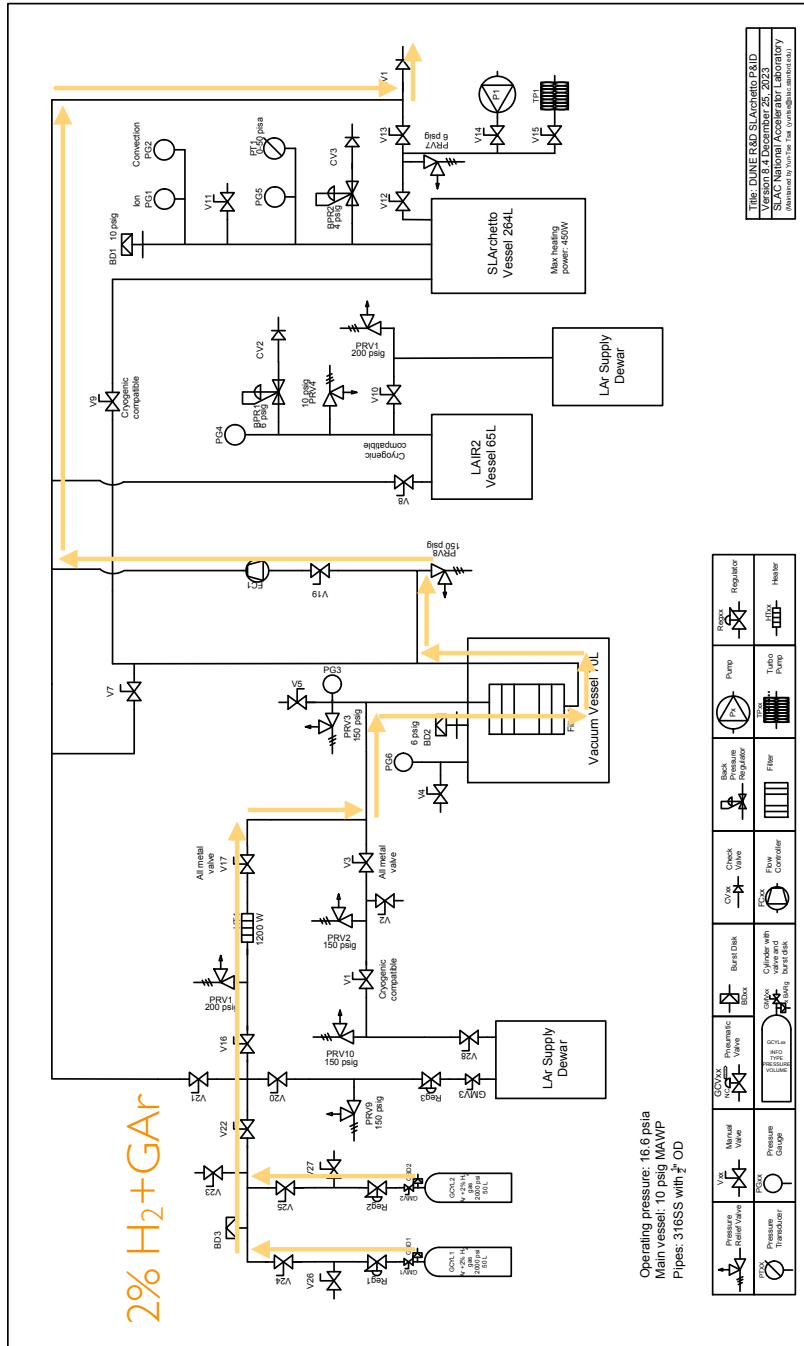

Figure 3: Gas flow direction: 2% H_2 +Ar gas
- The 2% H_2 +Ar gas flows from the gas cylinders, Reg1/2, V26/V27, V22, V16, HT1, V17, into the LAr filter, and vents from V19, FC1, outside the LNTF hut along the venting pipe, as shown in Fig. 3.